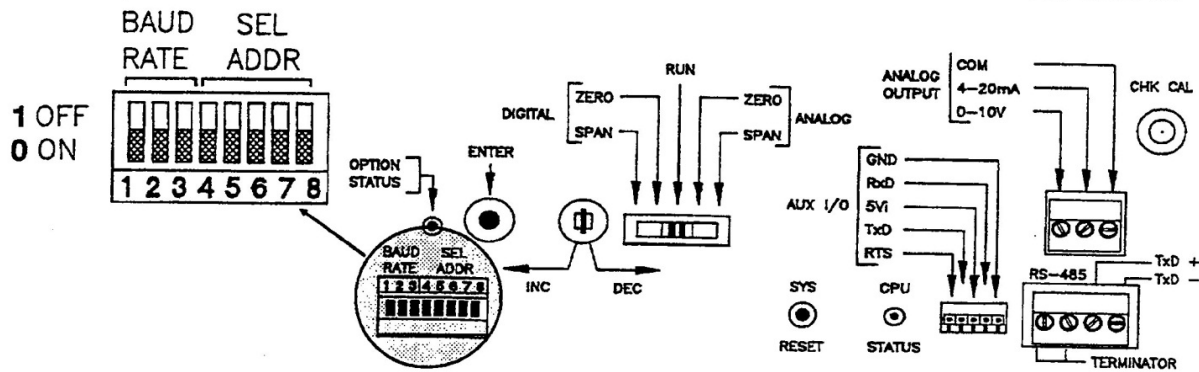

Figure 4-1. Serial Communication Parameter Selection Switch
The DXt-15 is equipped with a variety of standard and optional serial output formats that are selected using a series of DIP switches (Figure 4-1). MP switch positions 1, 2 and 3 allow three format choices; Digi-System network, continuous output, and terminal/computer interface (Table 4-1). All three types of DXt interfacing will be discussed in the following paragraphs. Positions 4-7 designate transmitter address for applications requiring more than one DXt unit (Table 4-2). Switch position 8 is unused and should be left in the '0' (ON) position.